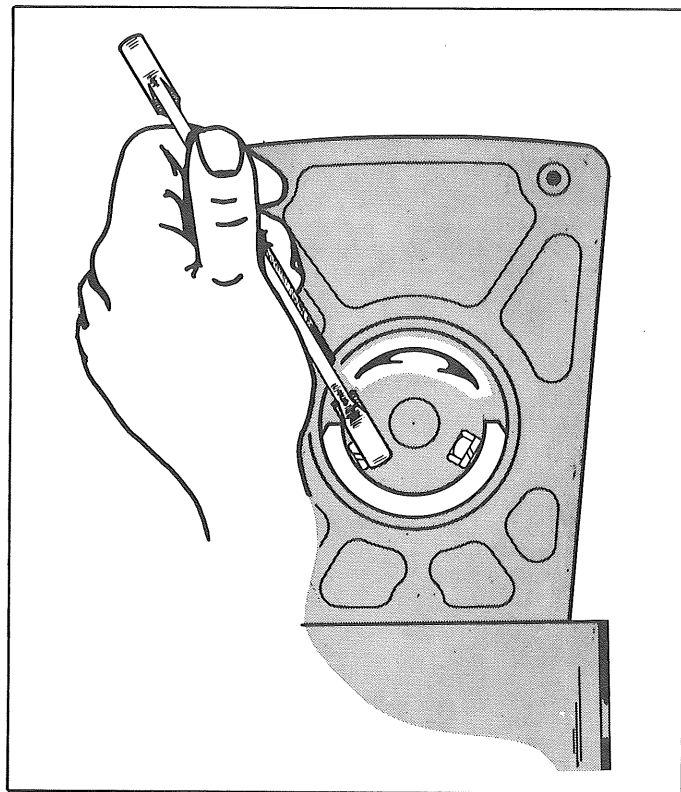

FIG. 28
6. Loosen both bolts located inside the top of the column using a 9/16" wrench. Fig. 28.